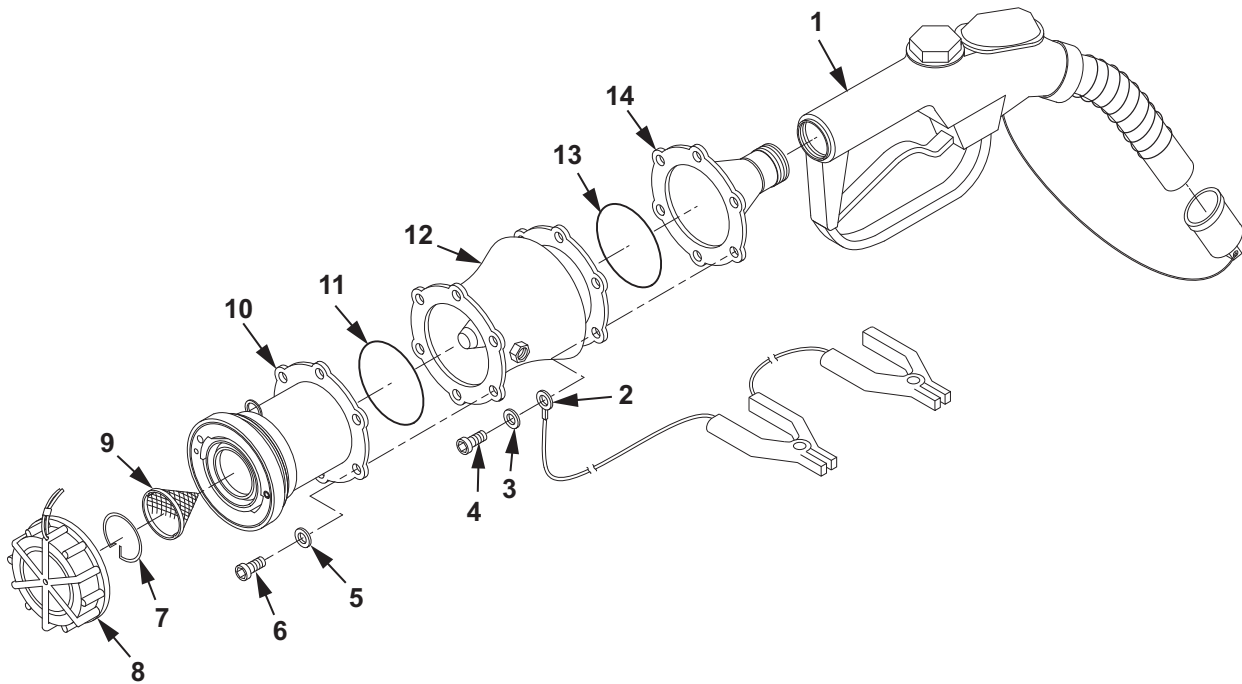

Figure 1. 1 In. Fuel and Oil Servicing Nozzle Disassembly.
1. Remove six screws (Figure 1, Item 6) and washers (Figure 1, Item 5) securing quick disconnect coupling half (Figure 1, Item 10) to hose end control valve (Figure 1, Item 12).
2. Remove O-ring (Figure 1, Item 11) from hose end control valve (Figure 1, Item 12) and discard.
3. Remove six screws (Figure 1, Item 4), washers (Figure 1, Item 3) and ground cable ring (Figure 1, Item 2) securing hose end control valve (Figure 1, Item 12) to nozzle adapter (Figure 1, Item 14).
4. Remove O-ring (Figure 1, Item 13) from nozzle adapter (Figure 1, Item 14) and discard.
5. Using an assistant to hold the nozzle (Figure 1, Item 1), use a strap wrench to remove nozzle adapter (Figure 1, Item 14) from nozzle (Figure 1, Item 1).
6. Remove dust cap (Figure 1, Item 8) from quick disconnect coupling half (Figure 1, Item 10).
7. Remove snap ring (Figure 1, Item 7) from quick disconnect coupling half (Figure 1, Item 10).
8. Remove strainer (Figure 1, Item 9) from quick disconnect coupling half (Figure 1, Item 10).